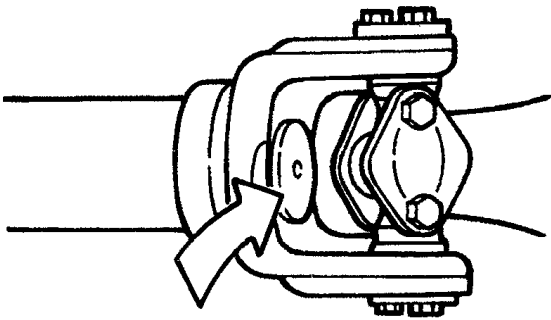

Figure 9 Inspect Welch Plugs
6. Welch plugs used in slip yokes should be inspected to be sure they are not loose or missing (Figure 9). If they are, repair or replace and check slip shaft length to be sure that the tube stub shaft is not hitting the welch plug and knocking it out.